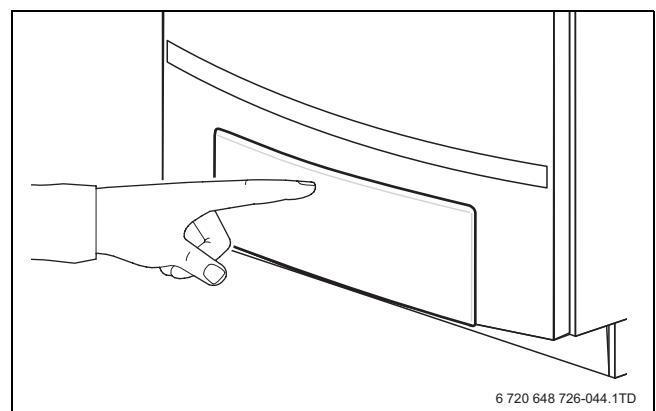

Fig. 44 Opening the control panel
► Push the arrow on the control panel cover to open (→ fig. 44).